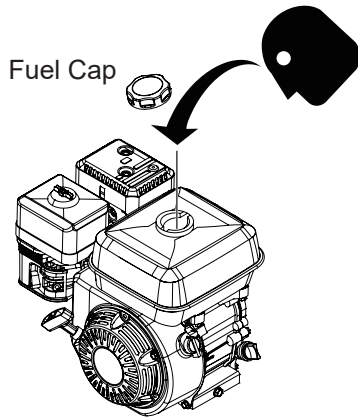

Fig. 9
1. Visually check fuel level. If fuel level is low, refuel with unleaded fuel. (Fig. 9)